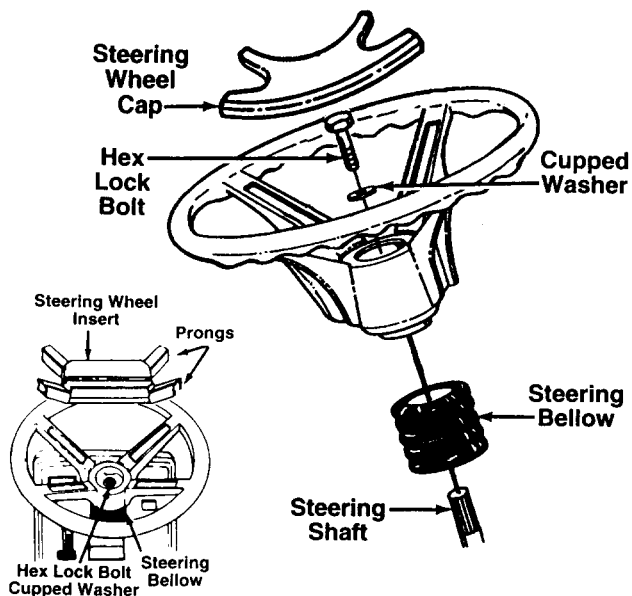

FIGURE 1.
5. Place the washer with the cupped side down over the steering shaft. Secure with hex lock bolt. See figure 1.
6. Place the steering wheel cap over the center of the steering wheel and seat it with your hand. See figure 1.
7. Snap the steering insert over the four spokes of the steering wheel. See figure 1, inset.